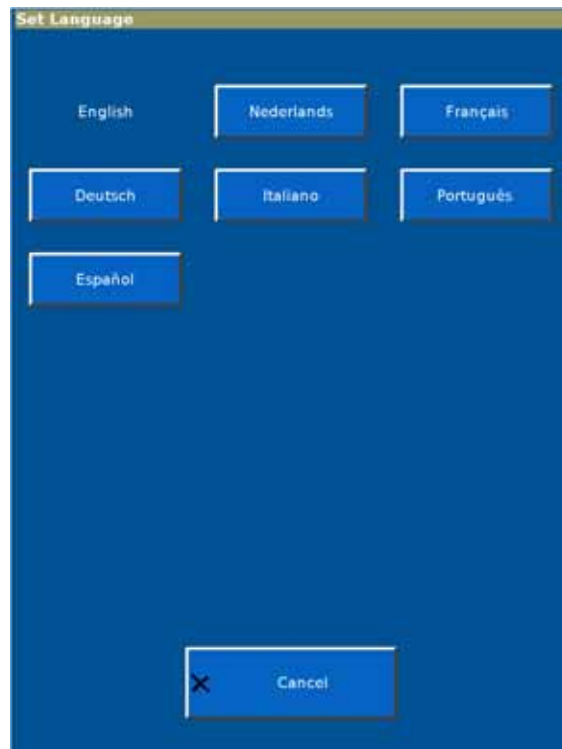

Figure F-3: Set Language screen 1
1. From the **System Settings** screen, select **Language** to display the **Set Language** screen (Figure F-3).